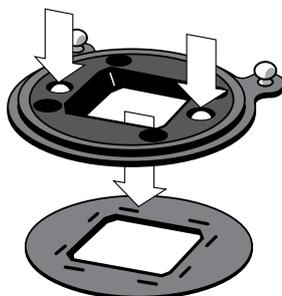

Figure 1-9
2. Press the two plastic buttons on the top of the required transparency holder to unlock the upper and lower part of the holder (see Figure 1-9).